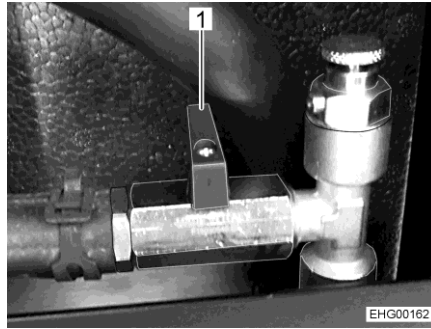

Fig. 181 Spherical valve (closed)
- Set the lever (Fig. 181,1) at right angles to the pipe.